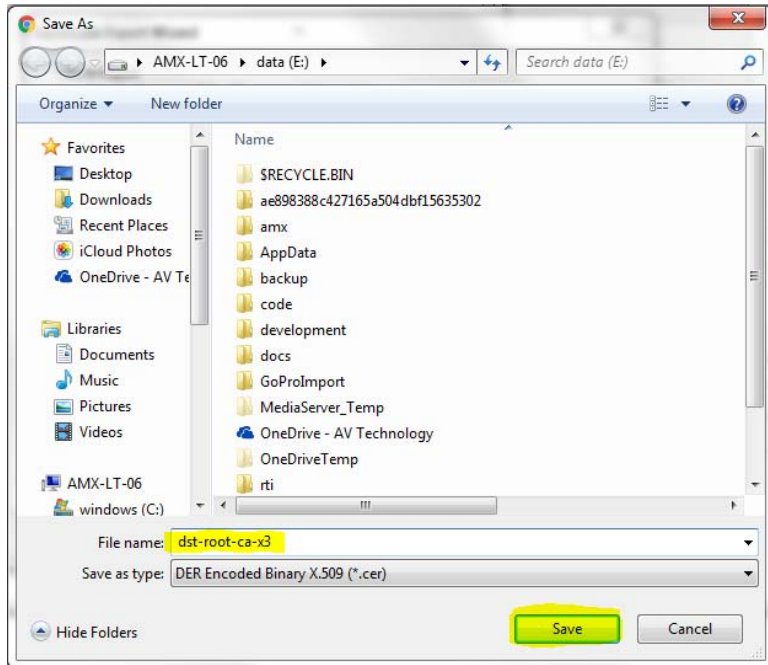

FIG. 468 Save As dialog
9. Browse to the folder you want to export the certificate to, type a filename for the certificate, and click **Save** (FIG. 468):